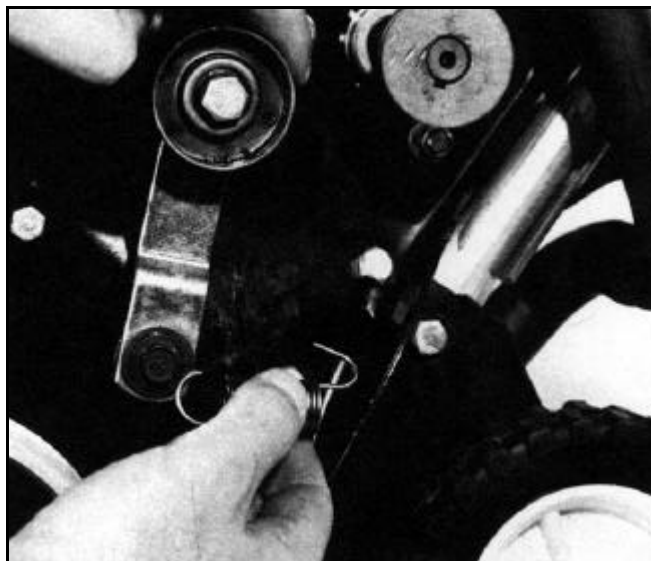

Figure 66
3. When installing the replacement spring, slide the more opened end of spring into the left side plate first (Figure 66). Next, slip the more closed end of the spring into the small hole in the idler arm.